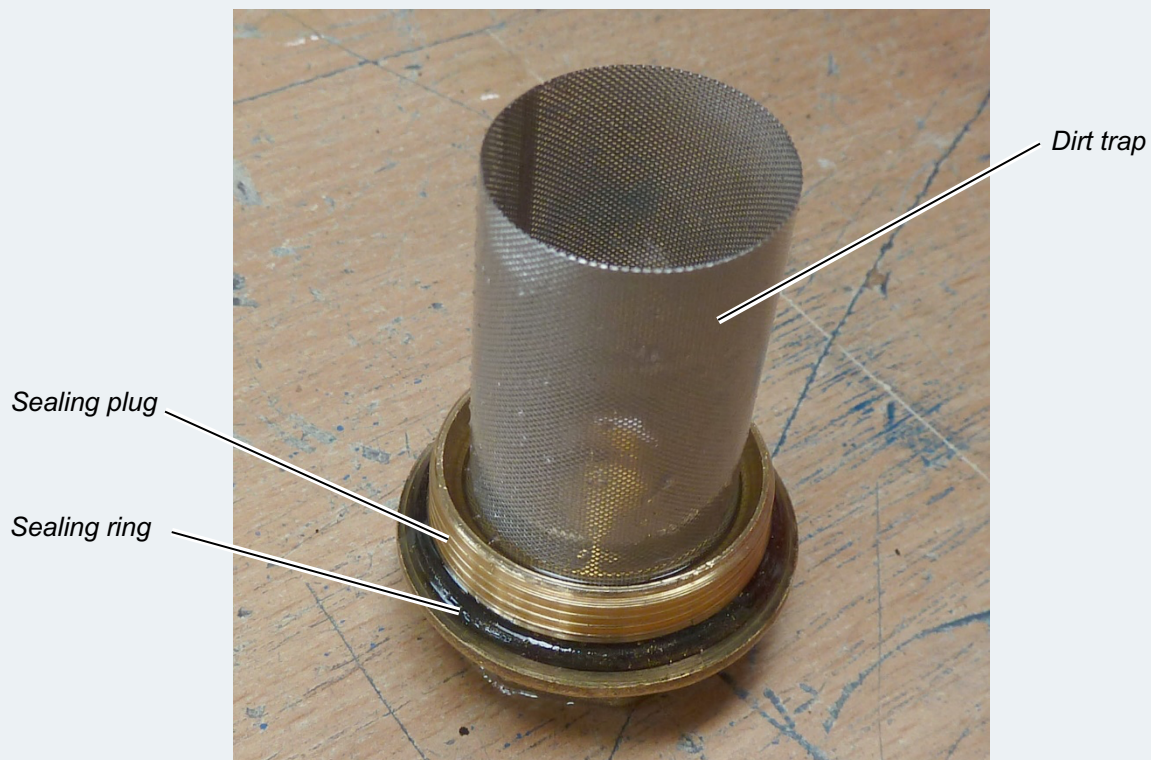

Figure 12: Dirt trap, removed
- ⇒ Remove the dirt trap (see Figure 12, page 43).